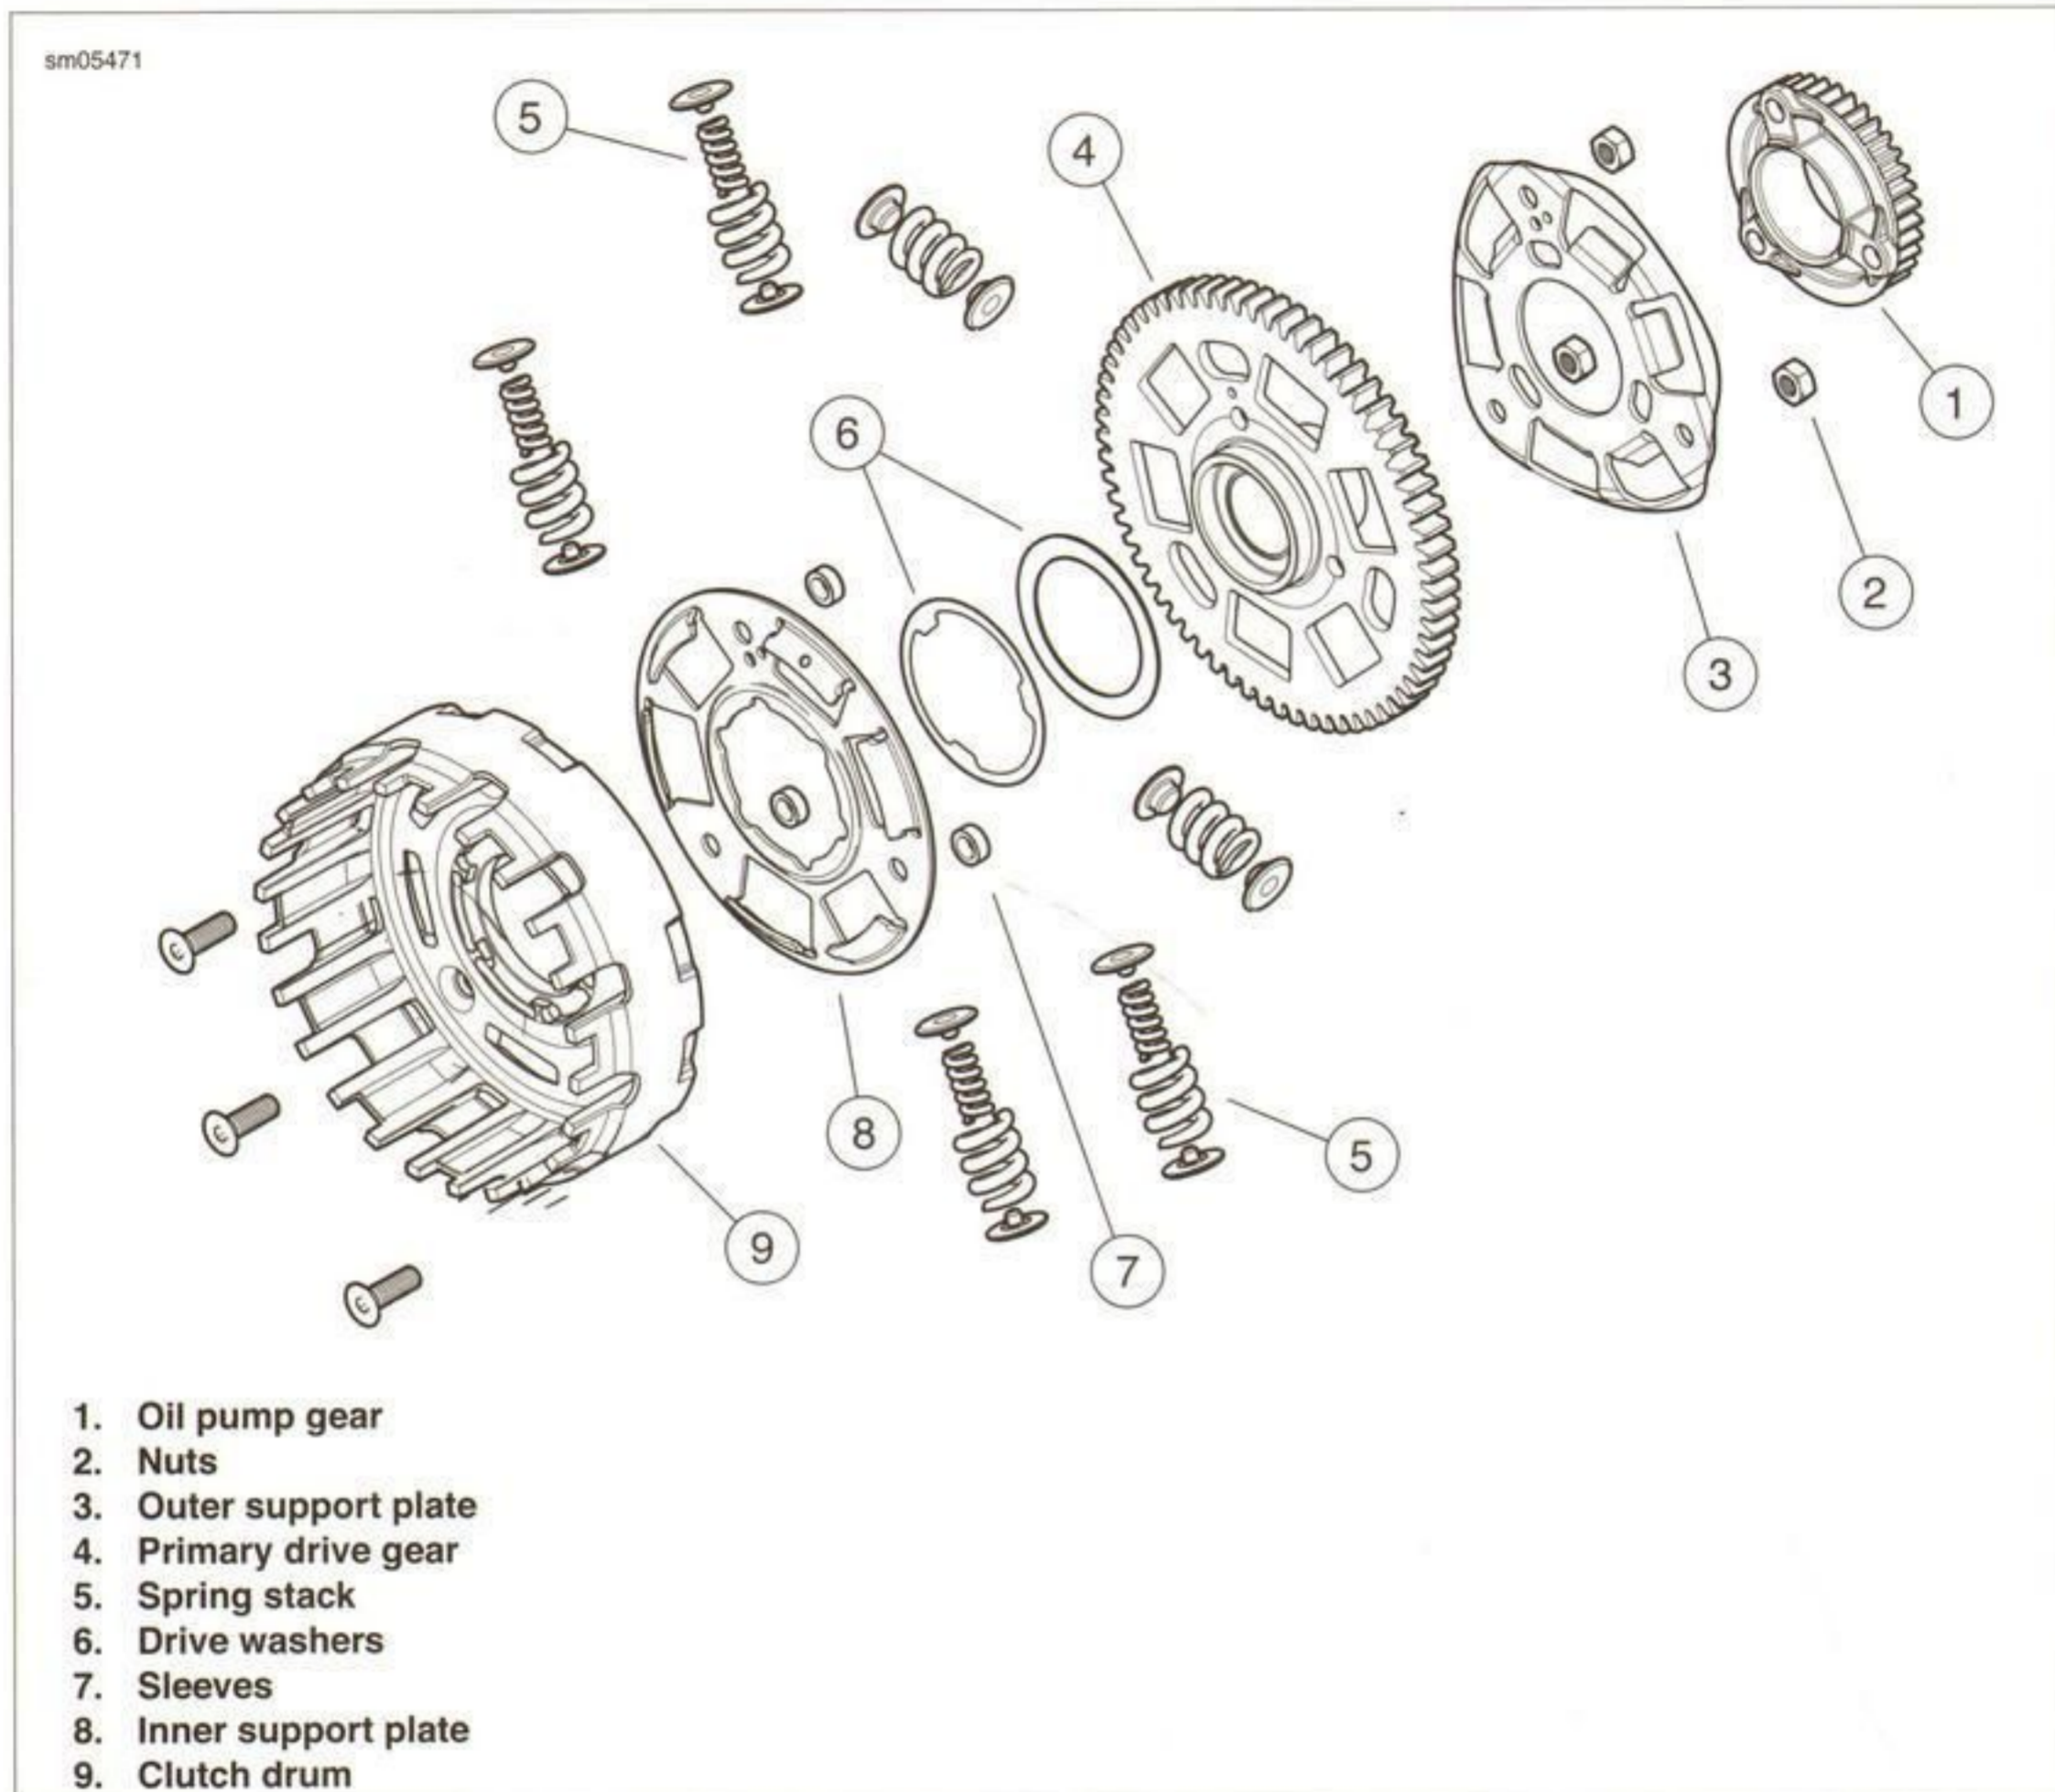

Figure 6-53. Primary Drive Assembly
1. See Figure 6-53. Slide the oil pump gear (1) off the assembly.
2. Remove the three nuts (2).
3. Disassemble the outer support plate (3), the primary drive gear (4), the spring stacks (5), the drive washers (6), the fastener sleeves (7) and the inner support plate (8) from the clutch drum (9).